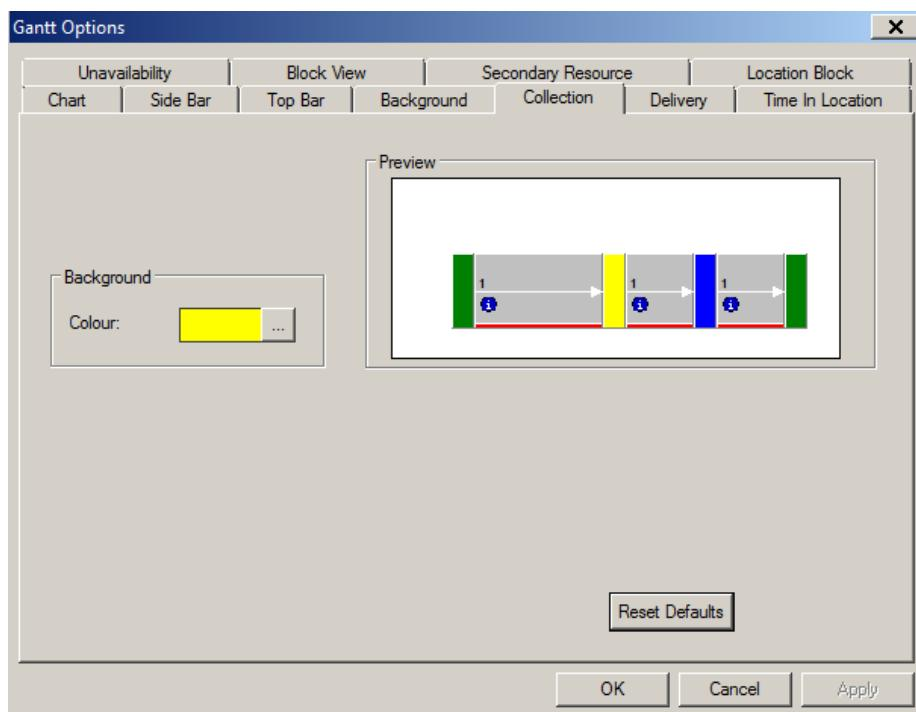

Figure 195
2. Click the Collection Tab (Figure 195)